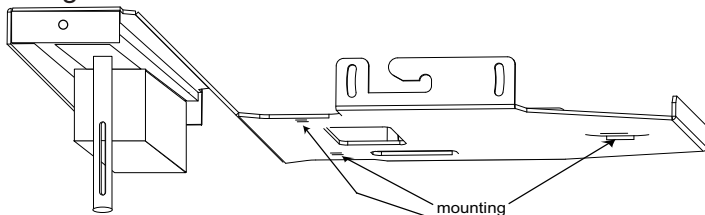

Figure 18
- Invert the projector and place it on a soft, flat surface. Align the three 6mm mounting holes on the projector with the mounting holes on Plate #4 and the LN9101M Sled. Secure the bracket to the projector using the three 6mm screws. Refer to figures 18 and 19.